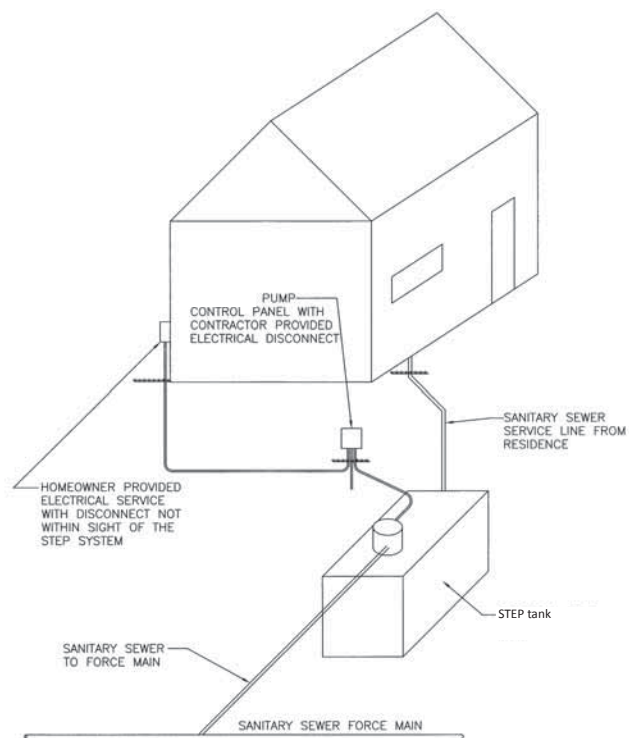

Figure 3. Typical homeowner-provided electrical circuit not within sight of STEP tank.
4. If the Disconnect is not within sight of the STEP tank or the location is not suitable for mounting of the pump control panel, the contractor will mount the control panel immediately next to the STEP tank with a second Disconnect. See Figure 3.